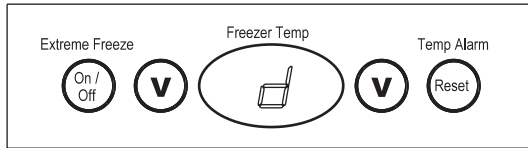

Figure 7
The door/lid alarm will activate if it is ajar for more than five (5) minutes. The control panel will beep every five (5) seconds, the red alarm light will glow and the display will alternate between “d” (DOOR/LID) and the cabinet temperature (see figure 7). Press the ALARM RESET button to turn the audible alarm (beep) off. The display will keep flashing and the red light will stay on. Close the door/lid of the freezer to return it to normal operation.